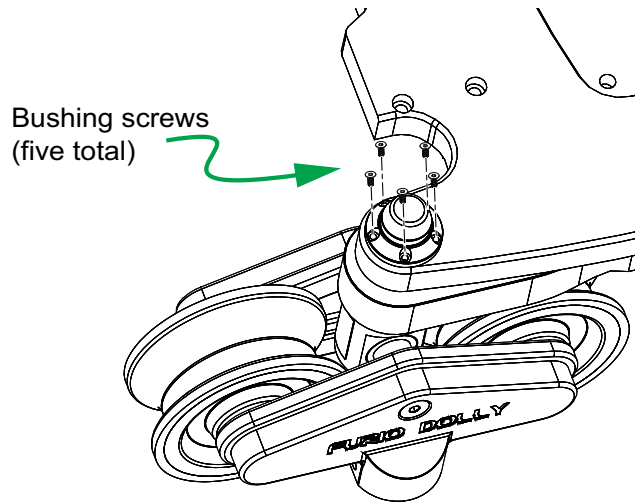

Figure 9 - Removing the Passive Wheel Bushing on the StableTrac Side
- Use a 2.5 mm hexagonal wrench to remove the five screws securing the passive wheel bushing to the dolly base. Refer to **Figure 9**.